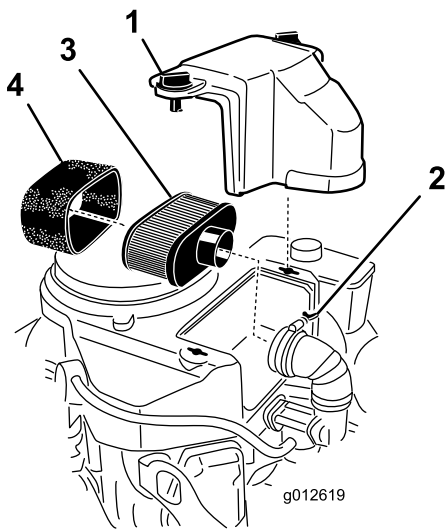

Figure 20
3. Clean the area around the air cleaner to prevent dirt from entering the engine and causing damage (Figure 20).
4. Unscrew the cover knobs and remove the air-cleaner cover (Figure 20).
5. Unscrew the hose clamp and remove the air-cleaner assembly (Figure 20).
6. Carefully pull the foam element off the paper element (Figure 20).
Important: Do not clean the paper filter, replace it (Figure 20).
1. Carefully slide the foam element on to the paper air-cleaner element (Figure 20).
2. Place the air-cleaner assembly onto the air cleaner base and secure it with the 2 wing nuts (Figure 20).
3. Place the air-cleaner cover into position and tighten the cover knob (Figure 20).